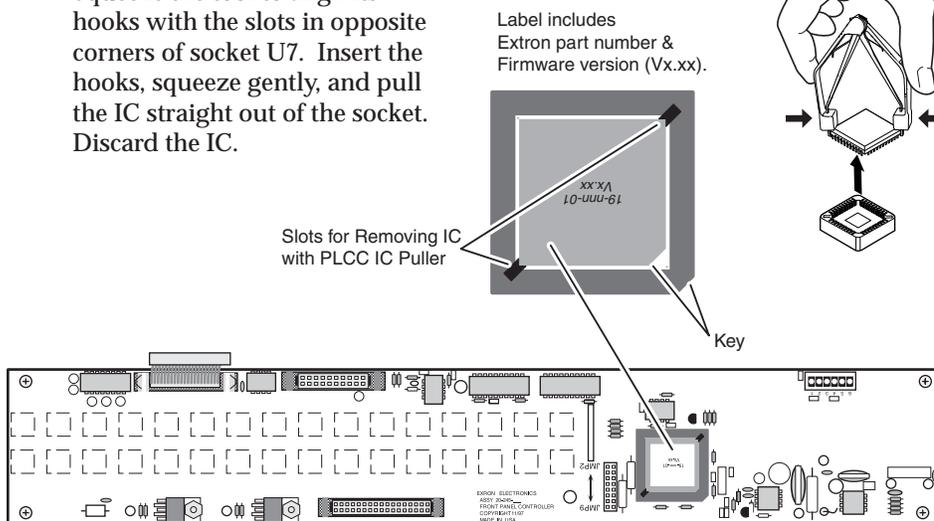

Figure 2 — Location of IC U7 on the front panel board
1. Locate IC U7 (figure 2) on the front panel board.